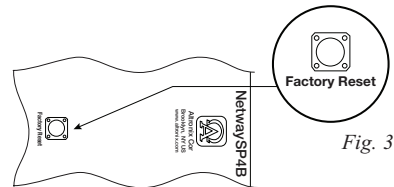

Fig. 3
2. Depress Factory Reset button on NetWaySP4B while reapplying power to the unit (Fig. 3, pg. 7; Fig. 5c, pg. 9). Continue holding the button until the LEDs on board go through the start up cycle, then release the button.